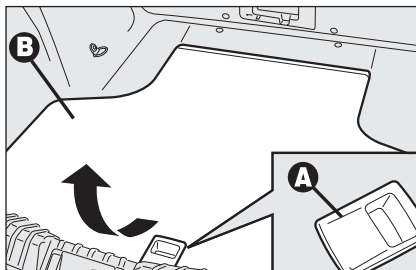
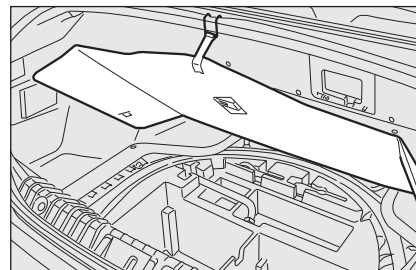

fig. 2
fig. 3
- Using handle **A-fig. 2**, lift the stiff cover **B** and secure it as shown in **fig. 3**;